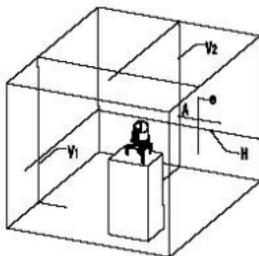

Fig. 11-2
6. If  $e > 0.079"$  (2mm), the horizontal accuracy is beyond tolerance (Fig. 11-2).